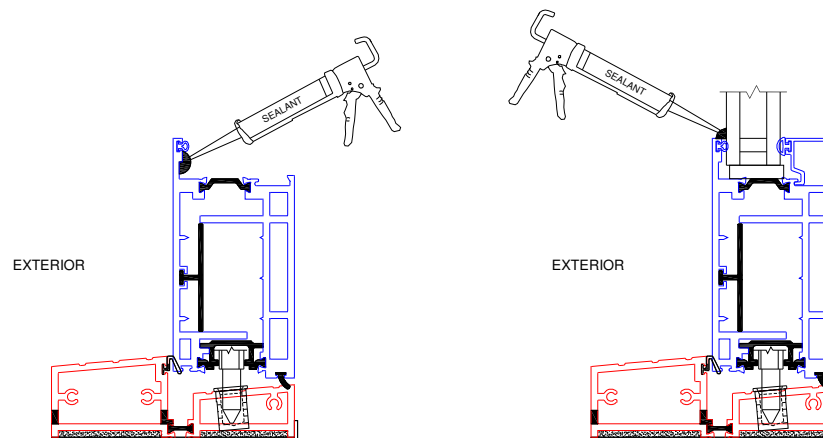

Figure 10:
1. Before glazing, apply a continuous bead of sealant to the fixed leg of the frame (Figure 10).